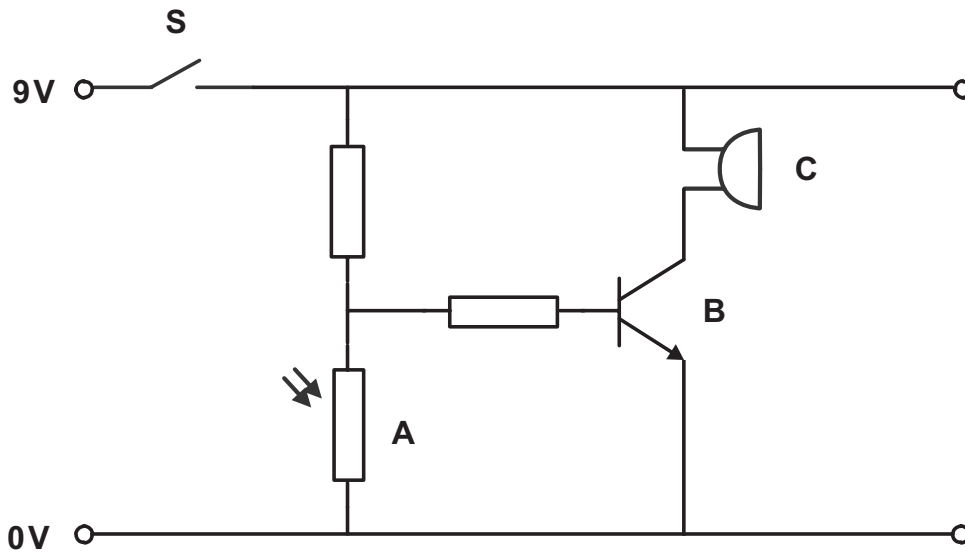

Fig. 9
- (b) An electronic circuit is shown in **Fig. 9**.
(i) Name the electronic components represented by the electronic symbols labelled **A** and **B** in **Fig. 9**.
(ii) Explain how the circuit in **Fig. 9** operates the buzzer labelled **C**.